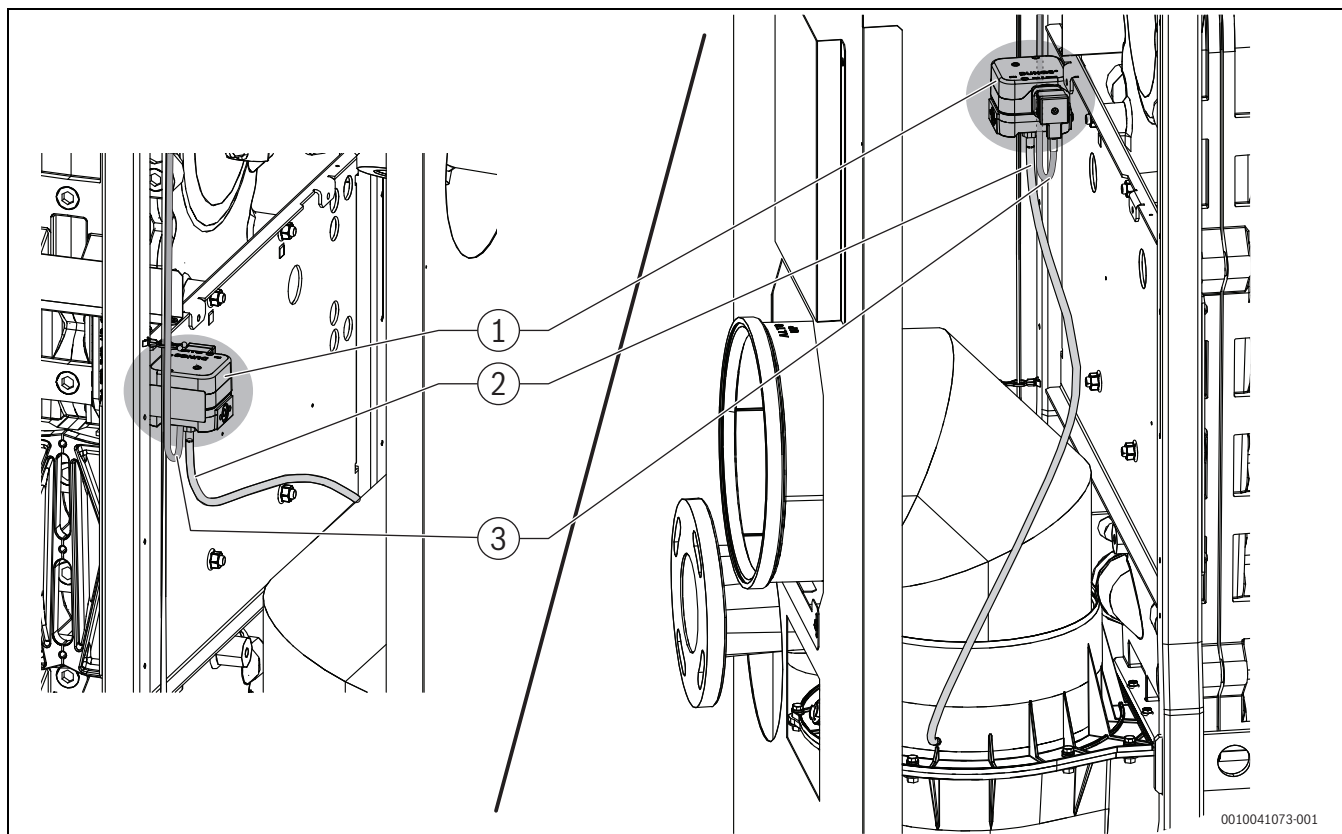

Fig. 82 Pressure monitor position; view from the right and left side
- When replacing parts in case of a repair, observe the correct allocation of the test cables according to Fig. 82 and 83!